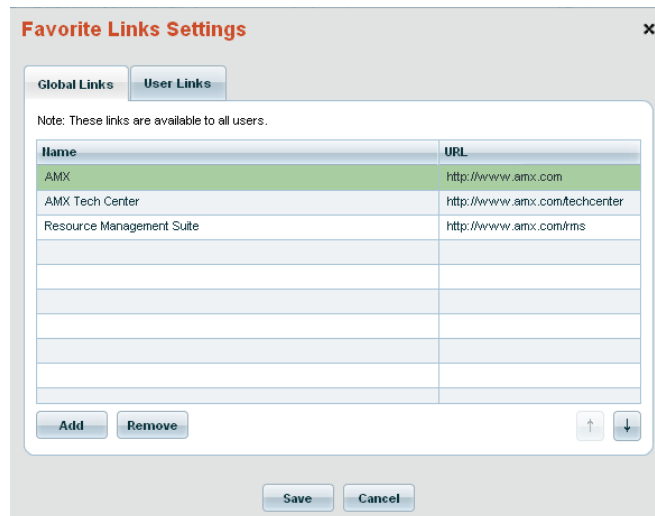

FIG. 114 Favorite Links Settings dialog - Global Links tab
2. If the currently authenticated user has global system configuration permissions assigned, the initial view is the **Global Links** tab (FIG. 114):